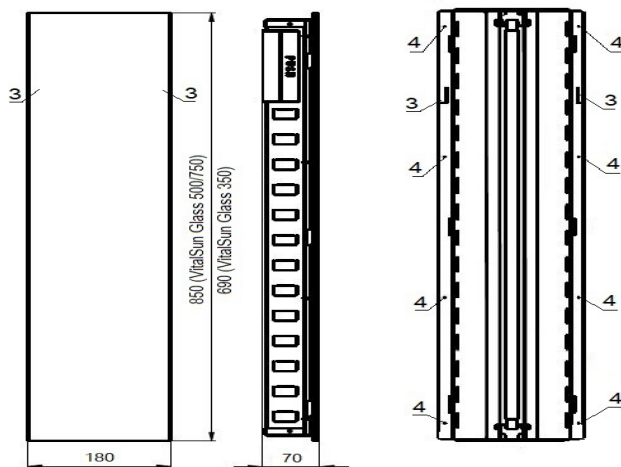

Fig. 3.3 Mounting points of the VitalSun Glass 350/500/750 series heater
- Dismantling the front panel: release the latch (Fig. 3.3, item 3), move the front panel upwards (in case of vertical installation),
- Secure the heater to the wall through the holes located along the longer edge of the housing (Fig. 3.3, item 4). Use only the screws included with the device.